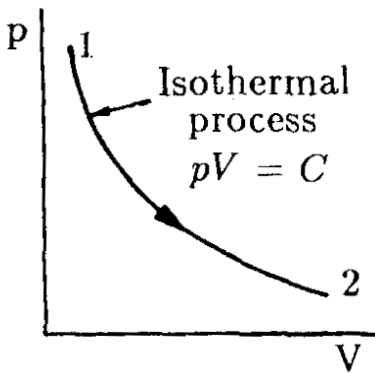

Fig. 2.3 Constant Temperature Process
- The isothermal process on a p - V diagram is illustrated in Fig.2.3.